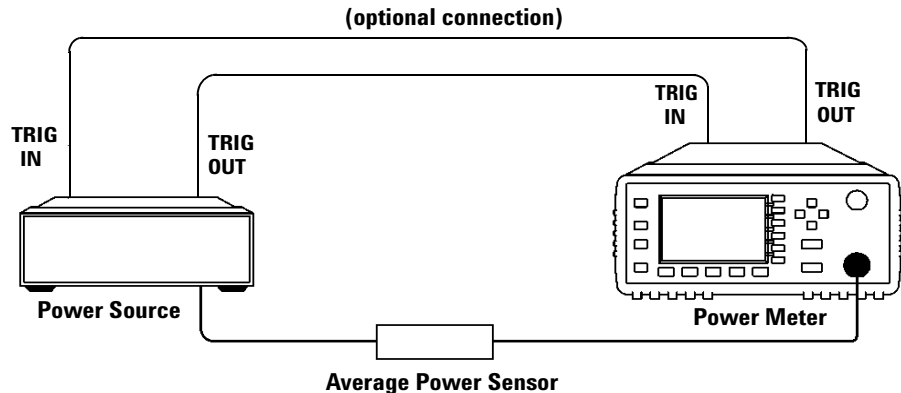

Figure 2-16 TRIG IN and TRIG OUT connection diagram between power meter and power source
These modes are used to eliminate the need for lengthy test routines, while increasing measurement throughput by reducing overhead of communication with the controller. The sweep feature allows you to make power measurement by quickly stepping through a series of frequencies or power levels. Configuration shown in Figure 2-16 illustrates the triggering connection required to synchronize power meter measurement to the power source settings.
- 2 Connect power meter **TRIG OUT** to power source **TRIG IN** using a BNC cable. The same connection is applied for power source **TRIG OUT** to power meter **TRIG IN**. See Figure 2-16.